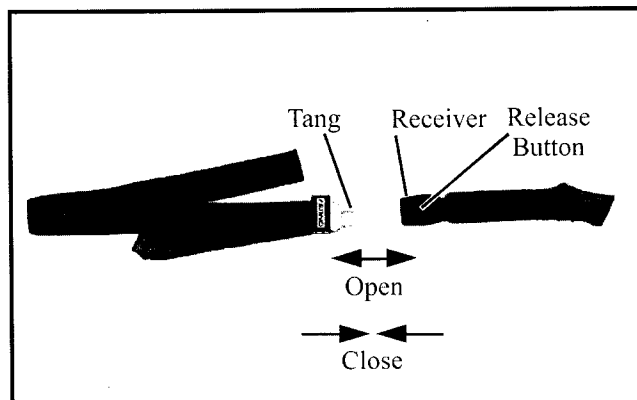

Figure 14 - Opening and Closing the Seat-Belt-Style Buckle
1. Slide the tang into the buckle receiver slot until the tang locks into place with an audible click. (Figure 14).
2. Pull the tang out of the receiver slot (Figure 14).